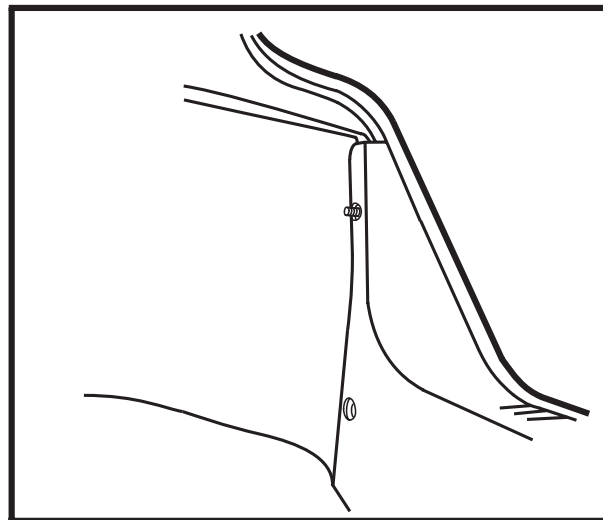

Fig. 3
6. Align the weld studs with the holes in the fabric liner and trunk sill plate. Move the trunk sill plate back into it's original position. Weld stud should extend through the upper hole on the trunk sill plate, each side. (Fig. 3)